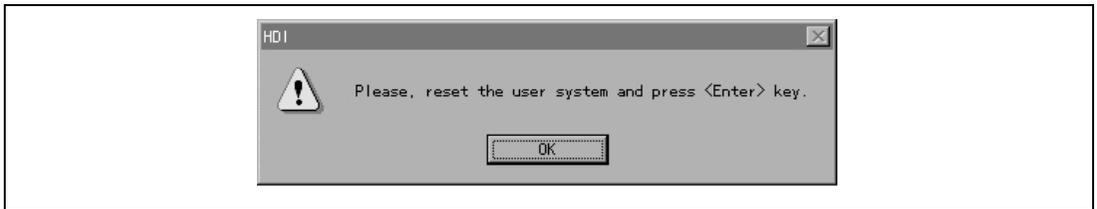

Figure 3.6 Reset Request Dialog
- A dialog (figure 3.6) is displayed on the PC screen; turn the SH7727SE reset switch (SW1) on, and after resetting the CPU, click the OK button, or press the Enter key.